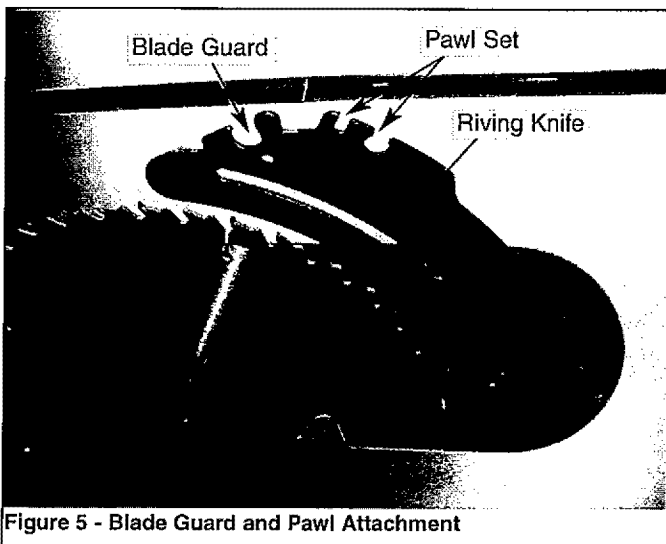

Figure 5 - Blade Guard and Pawl Attachment
Refer to Figures 5 and 14, page 28.
- Place the slot of blade guard body (Key No. 11) over the riving knife. Through bolt of guard is placed in the notch indicated in Figure 5.